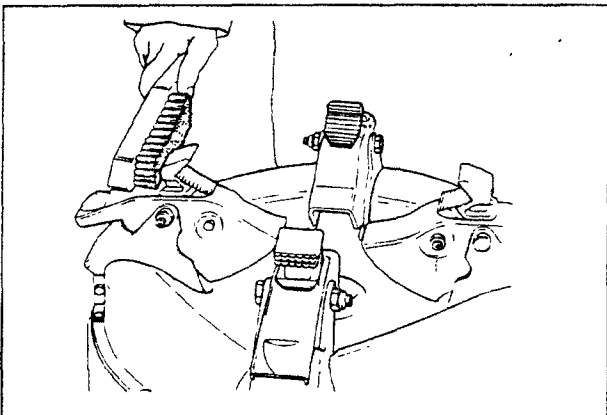

Fig.25
C. Clean the teeth of the clamps with a wire brush, check the plastic rim protector and replace it if worn (Fig.25).